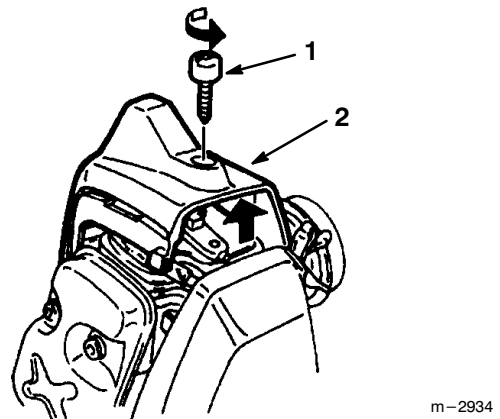

Figure 22
2. Loosen the cylinder cover screw and lift off the cylinder cover (Fig. 22).
9. Reinstall the cylinder and muffler covers (Figs. 22 and 26).
2. Loosen the cylinder cover screw and remove the cylinder cover (Fig. 22).
4. Reinstall the cylinder cover and the muffler cover (Figs 22 and 26).